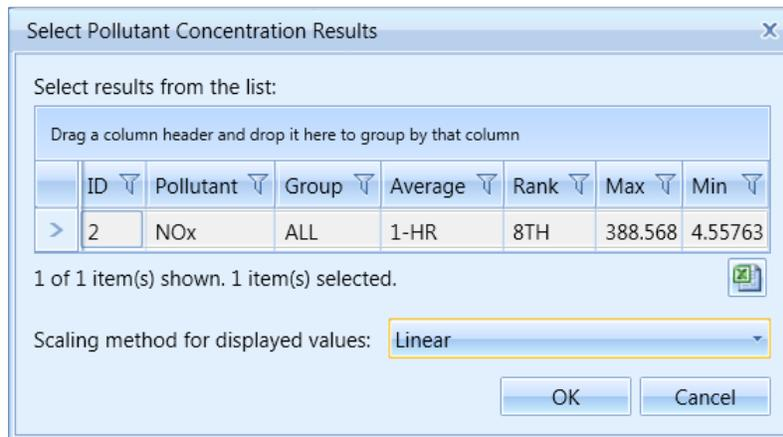

Figure 5-45 Select Pollutant Concentration Results Dialog
3. The *Select Pollutant Concentration Results* dialog (Figure 5-45) is displayed.